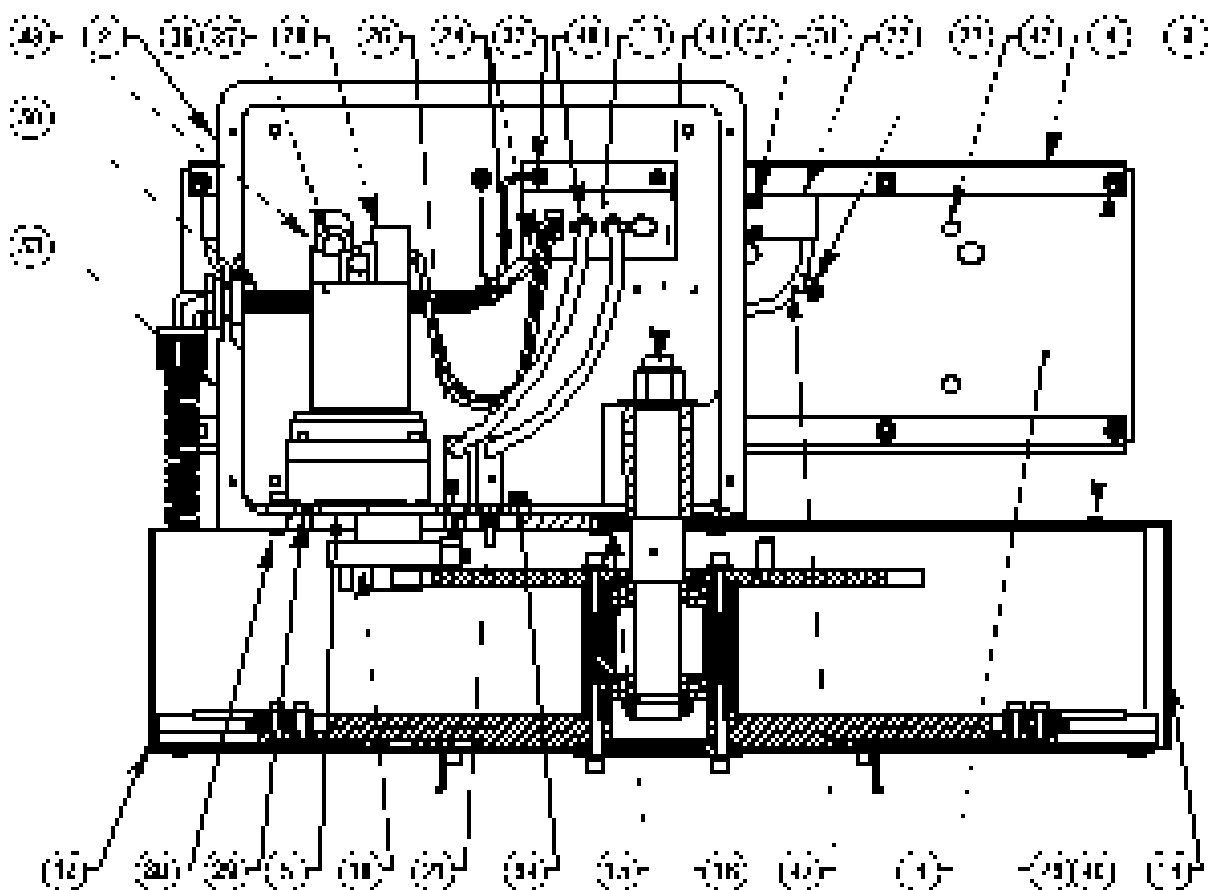

Fig. 14-2 Automatic Tool Changer - Mechanical Assembly
4. Using the large-blade flat tip screwdriver, push up on the bolt holding the **cam follower** (Item 63, Fig. 14-2). Do this to engage shuttle completely to the **in** position.
7. Push the **cam follower** to its full upward stroke, then push the entire ATC assembly in by pushing on the tool changer **holding plate** (Item 9, Fig. 14-2) until ATC is fully engaged on the tool holder.
drive motor (Item 71, Fig. 14-2) and read the **level**. It should be within one increment of the level. If it is not, remove the three 10-32 x $\frac{1}{2}$ " SHCS holding the Z-axis way cover to the spindle head casting and slide to the lowest position.
3. Remove the hex bolt that attaches the **cam follower** to the **slip clutch** (Item 63, Fig. 14-2).
6. Ensure the actuating arm on the slip clutch assembly contacts the shuttle IN and OUT limit switches (Fig. 14-2).
5. Loosen the nut inside the shuttle casting (Item 57, Figure 14-2) that attaches the **ATC carousel assembly** to the casting. There is a socket head in the top of the shaft to hold it stationary while loosening the nut.
8. Install the **Tool #1 standoff** (Item 21, Figure 14-2) on the replacement Geneva star.